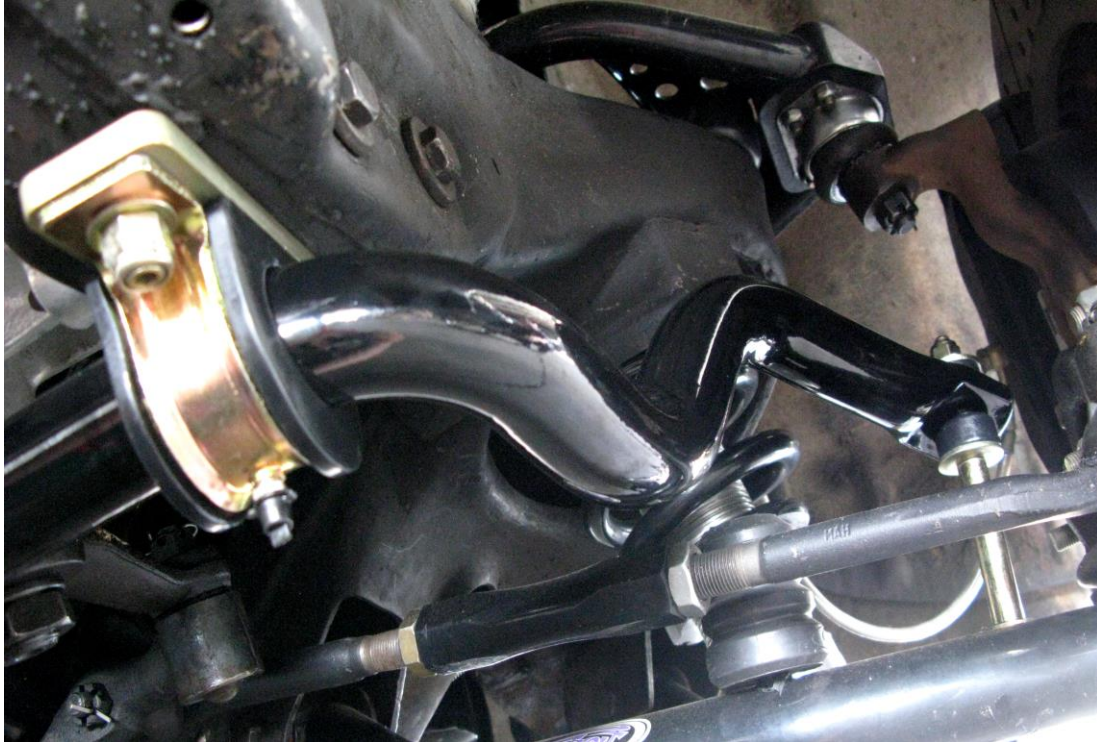

Figure 4 – Completed Installation
8. Reinstall the front wheels and torque to the manufacturer's recommended torque specs. Lower the vehicle to the ground. The finished installation should resemble Figure 4.